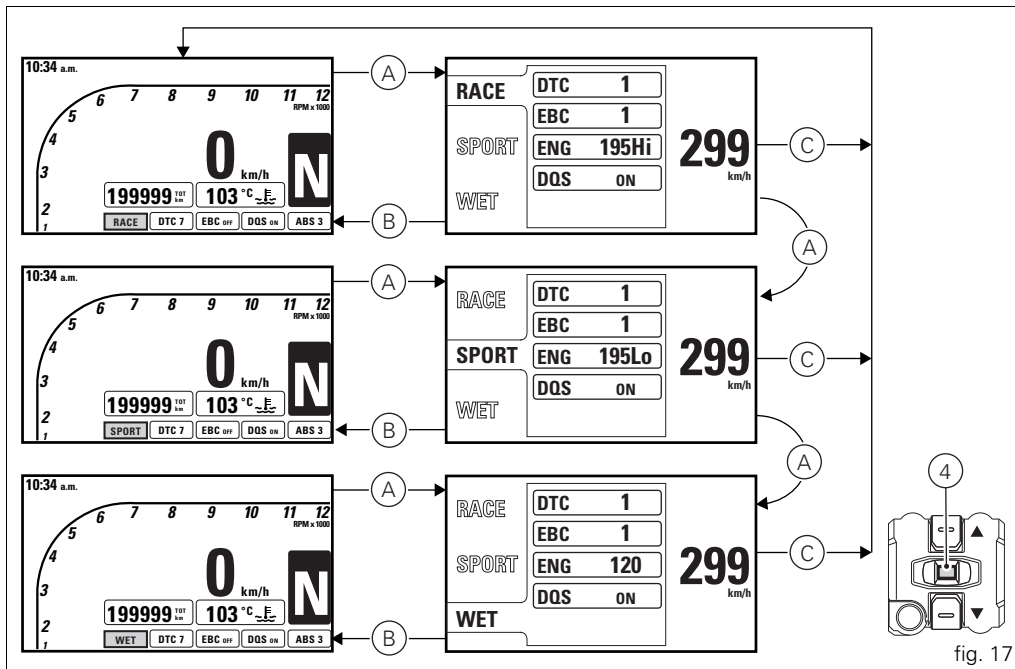

fig. 17
Press CONFIRM MENU button (4) to enter the menu for selecting the Riding Mode (A, fig. 17).
Any time the CONFIRM MENU button (4) is pressed, you highlight a riding mode and the associated parameters are displayed (A, fig. 17).
Once the desired riding mode is highlighted, confirm the selection by holding down the CONFIRM MENU button (4) for 2 seconds: the new riding mode selection is stored and the Standard Screen is displayed (B, fig. 17).
Once the desired riding mode is highlighted, if the CONFIRM MENU button (4) is not pressed within 10 seconds, the new riding mode selection is not stored and the Standard Screen is displayed (C, fig. 17).